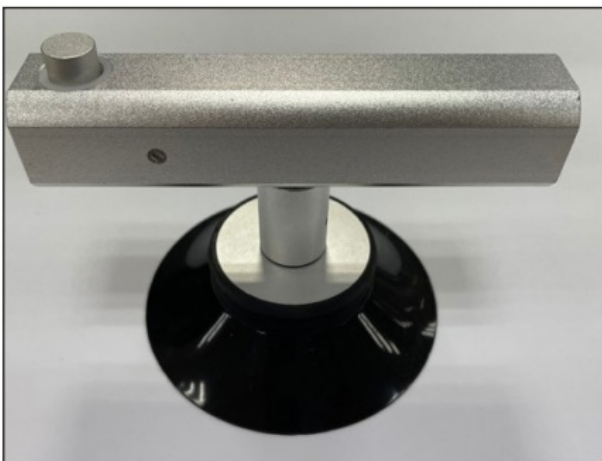
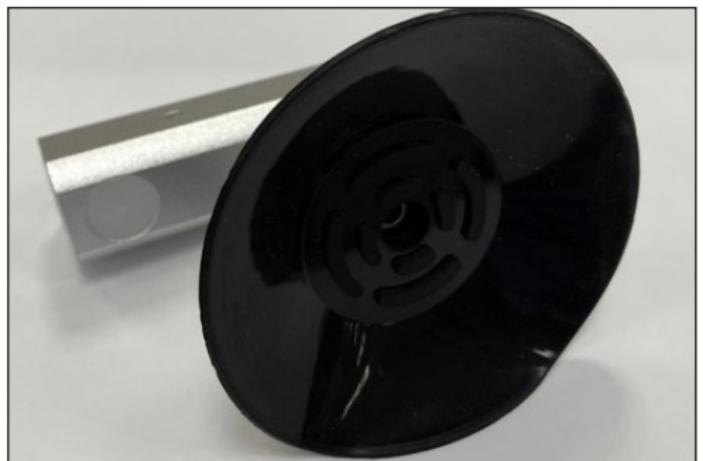

Figure 1: Removal Tool
Figure 2: Face of the Tool
2. Ensure the face of the supplied removal tool is free of dust and metal filings that can damage the modules and LEDs. Refer to Figure 1 and Figure 2.